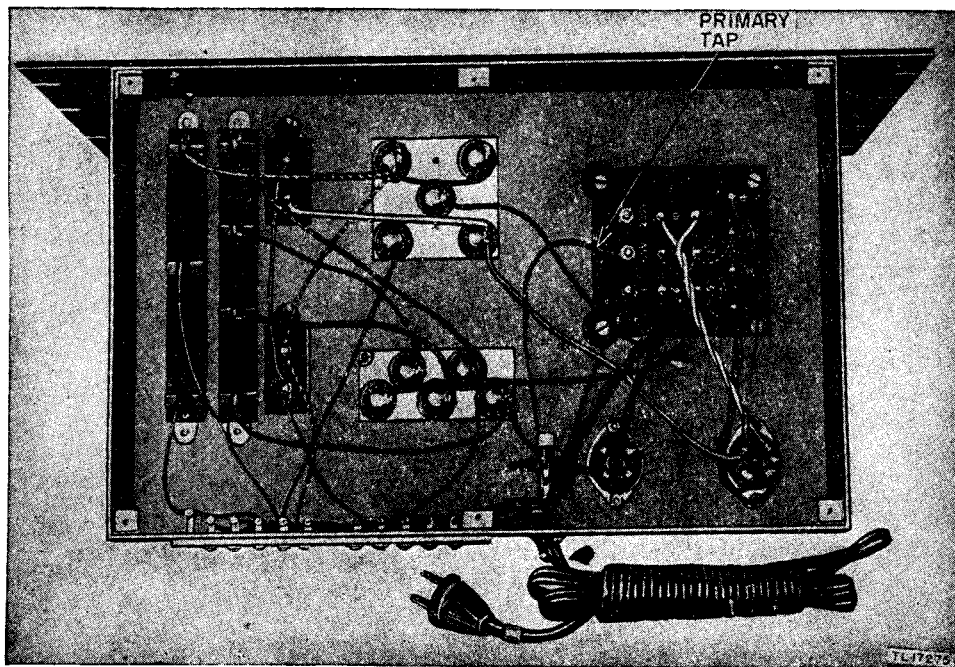

Figure 12. Bottom view of power supply unit, showing primary tap connection.
**e. A-C INPUT.** Before plugging the power cord into the a-c power line, remove the bottom plate from the power supply unit to see that the primary tap is properly connected for the particular a-c voltage available. This primary tap connects the fuse holder to one of the screw terminals on the power transformer, and is marked PRIMARY TAP in figure 12. Connect the primary tap to the screw terminal most closely agreeing with the available a-c line voltage and replace the bottom cover plate.
(1) Power Supply Unit RA-74-(\*) has eight